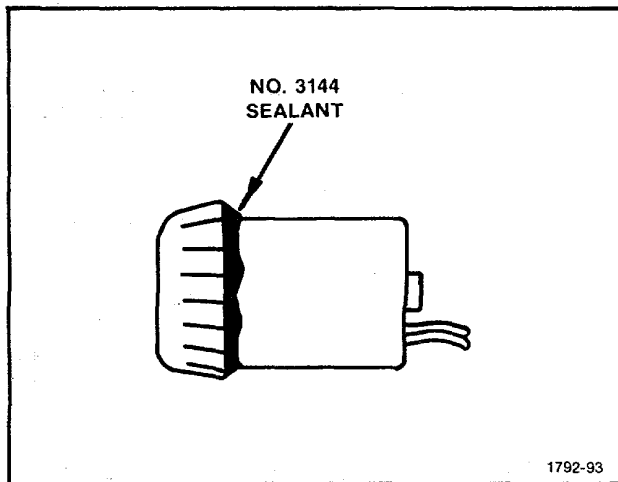

Figure 5-15. Application of sealant to Battery Meter.
**16. Install Battery Meter (see Figs. 5-15 and 5-16)**
1. Apply a thin bead of No. 3144 sealant to the junction of the bezel and meter canister (see Fig. 5-15).